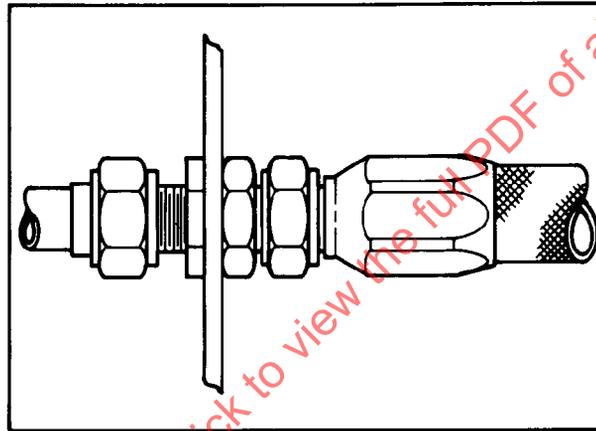
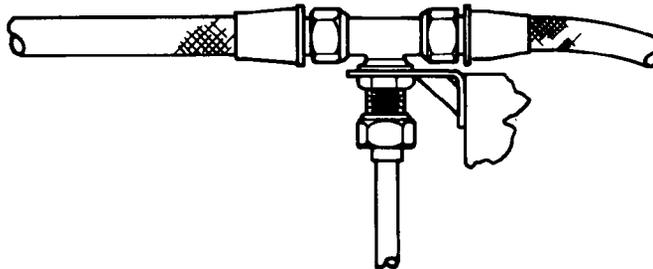

FIGURE 7
FIGURE 8
5.2.5.1 Bulkhead Fitting: A bulkhead fitting can be firmly attached to a piece of structure or bracket in order to provide a fixed mounting for one or both ends of a hose. The bulkhead fitting can be a straight fitting as shown in Fig. 7, or it can be a more complex shape to allow connecting more than one tube or hose at a single point as shown in Fig. 8.